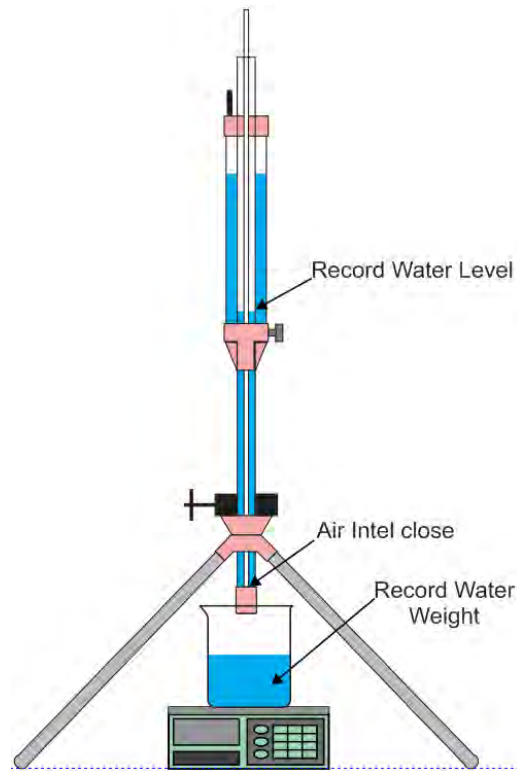

Fig. 45
**Record the water weight (Fig. 45)** in the Beaker ( $V$  in  $\text{cm}^3$ ). Please note that the assumption here is that each gram of water has one cubic centimeter volume. Volume of water changes slightly due to ambient (room) temperature. Therefore  $V$  can be corrected for temperature using the Water Density Table.